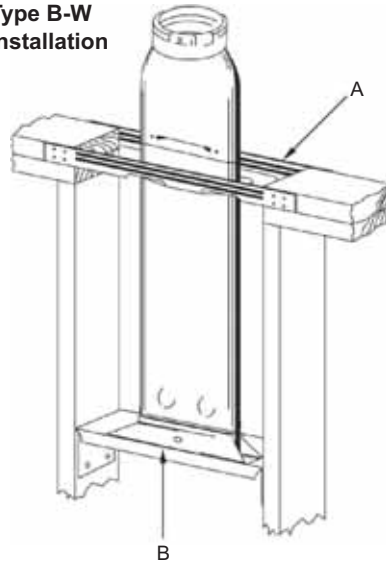

Fig. 41
5. The installation must contain an Oval Hold-Down Plate (4OHD) at the base, Oval Plate Spacers (4OPS) at the first ceiling level, and Firestop Spacers (4OPS) at any additional floor levels. See Figures 41 and 42.
2. Nail one Plate Spacer (4OPS), (A), across cut-out area in ceiling plate. See Figure 41. Plate Spacer (4OPS) is required at the first ceiling level above a wall furnace to center and space vent properly and to provide the required opening between floors.
3. Snap Hold-Down Plate (4OHD), (B), onto bottom end of pipe as shown in Figure 41. Install Vent Section in position. Use two No. 8 binder head sheet metal screws to attach Hold-Down Plate firmly to Furnace header plate through pre-punched holes.
4. Nail second Plate Spacer across cutout ceiling plate as shown in Figure 41. Firestop Spacers (OFS) must be used at subsequent levels.